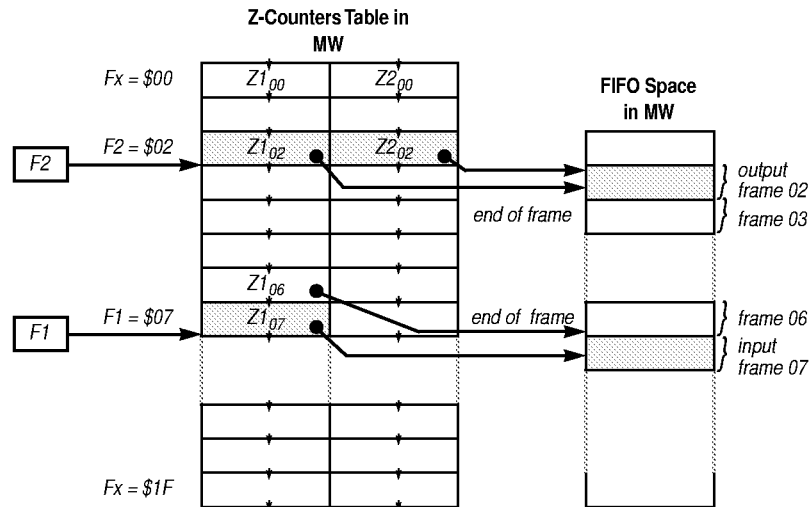

Figure 3-4. FIFO Organization (Shown for B-Channel, Similar for D-Channel)
*With every byte being sent from the host bus side to the FIFO, Z1 is incremented automatically. If a complete frame has been sent, F1 must be incremented to send the next frame. If the frame counter F1 is incremented also, the Z-counters may change because Z1 and Z2 are functions of F1 and F2. So there are Z1(F1), Z2(F1), Z1(F2), and Z2(F2) (see Figure 3-4).*